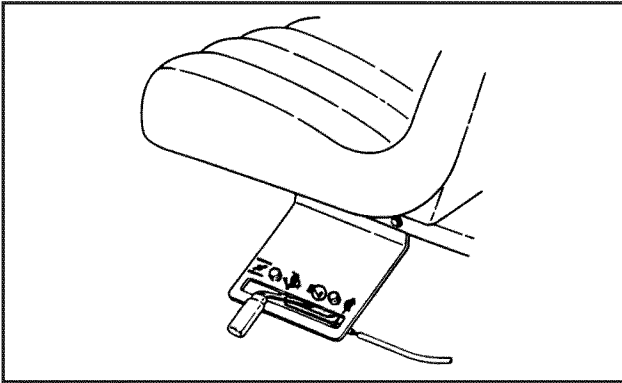

FIGURE 6
**ALWAYS** operate the unit with the engine speed control set to FAST when mowing or driving, **NEVER** engage the mower blades with the engine speed set to SLOW (Figure 6).